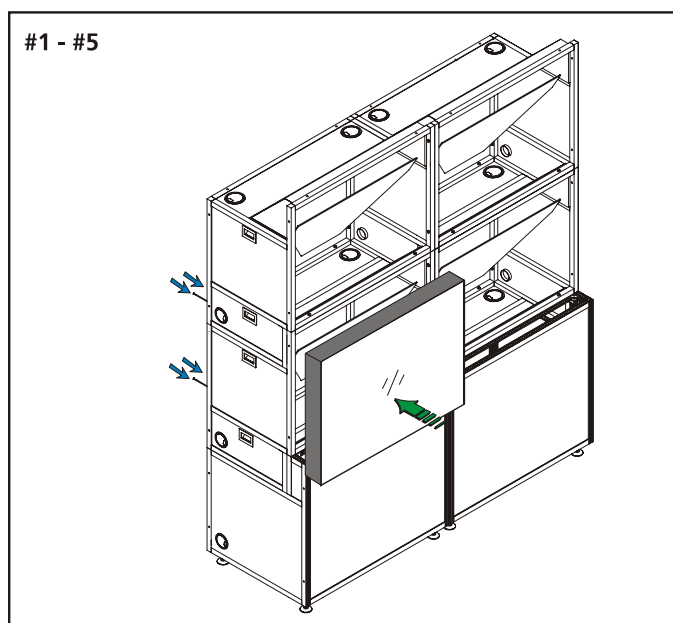
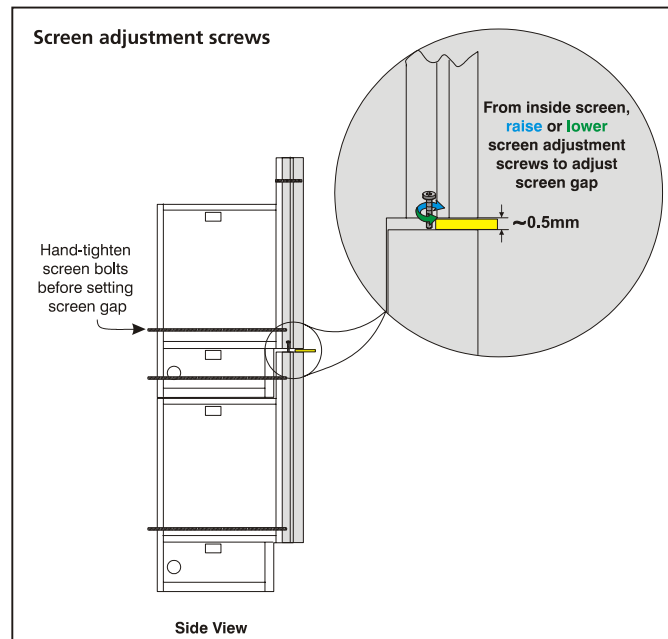

FIGURE 2-14 INSTALL SCREENS TO THE FIRST ROW
FIGURE 2-15 FULLY EXTEND SCREEN ADJUSTMENT SCREWS FOR SUPPORT
2. Starting with the centre cube, and working in pairs, lift the screen into position at the front of the display cube. Make sure the screen is in the proper orientation with the two support screws at the bottom. These screws should be fully extended at this point. See Figure 2-14 and Figure 2-15.